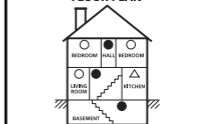

FIGURE 3
- Locate the first alarm in the immediate area of the sleeping rooms. Try to monitor the exit path as the sleeping rooms are usually farthest from the exit. If more than one sleeping area exists, locate additional alarms in each sleeping area (See FIGURE 3).